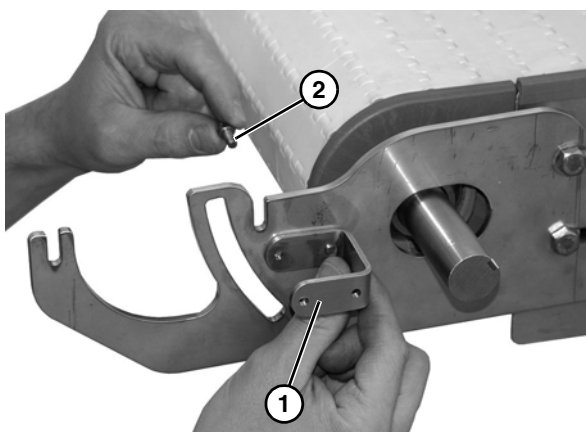

Figure 9
6. Install timing belt cover bracket (**Figure 9, item 1**) with two M6 bolts (**Figure 9, item 2**) to transfer plate.